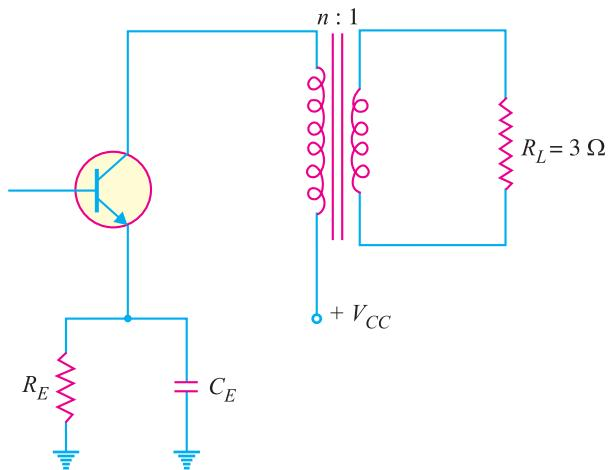

Fig. 11.18
**Example 11.18.** The output resistance of the transistor shown in Fig. 11.18 is  $3\text{k}\Omega$ . The primary of the transformer has a d.c. resistance of  $300 \Omega$  and the load connected across secondary is  $3\Omega$ . Calculate the turn ratio of the transformer for transferring maximum power to the load.